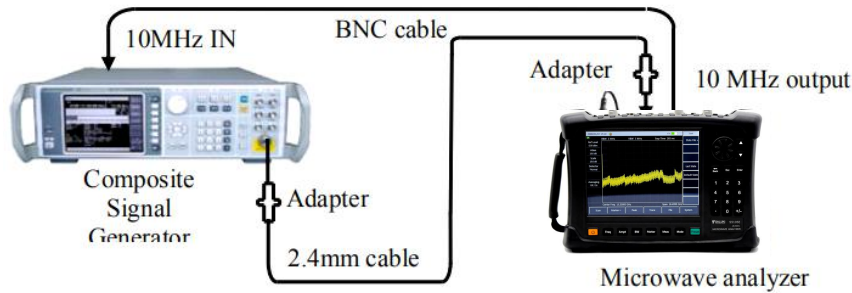

Figure 5-35 Block diagram of span accuracy, resolution bandwidth accuracy and sideband noise test
Test block diagram is shown in Figure 5-35:
- 1) Connect the test equipment according to Figure 5-35, and the microwave analyzer is used to provide reference frequencies for the composite signal generator.
b) Test block diagram as shown in Figure 5-35
- 1) Connect the test equipment according to Figure 5-35. The spectrum analyzer is used provide reference frequencies for the signal generator;
- 1) Connect the test equipment according to Figure 5-35. The microwave analyzer is used to provide reference frequencies for the composite signal generator.